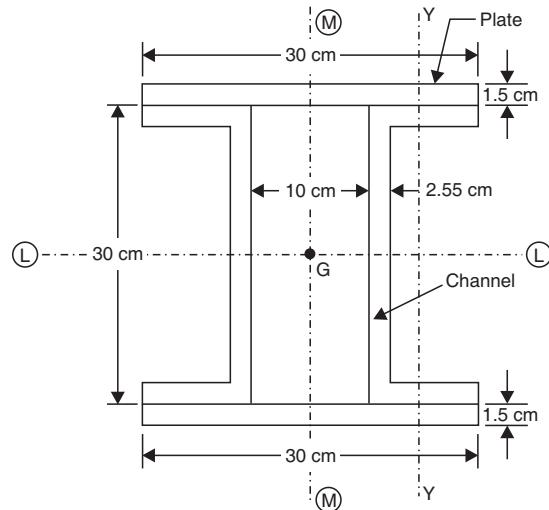

Fig. 8.24
**Example 8.5.** A fabricated girder system consists of two plates  $30 \text{ cm} \times 1.5 \text{ cm}$  and two ISLC 300 channels  $30 \text{ cm} \times 10 \text{ cm}$  set  $10 \text{ cm}$  apart as shown in Fig. 8.24. The properties of a  $30 \text{ cm} \times 10 \text{ cm}$  channel section are as follows :
**Sol.** Refer to Fig. 8.24.